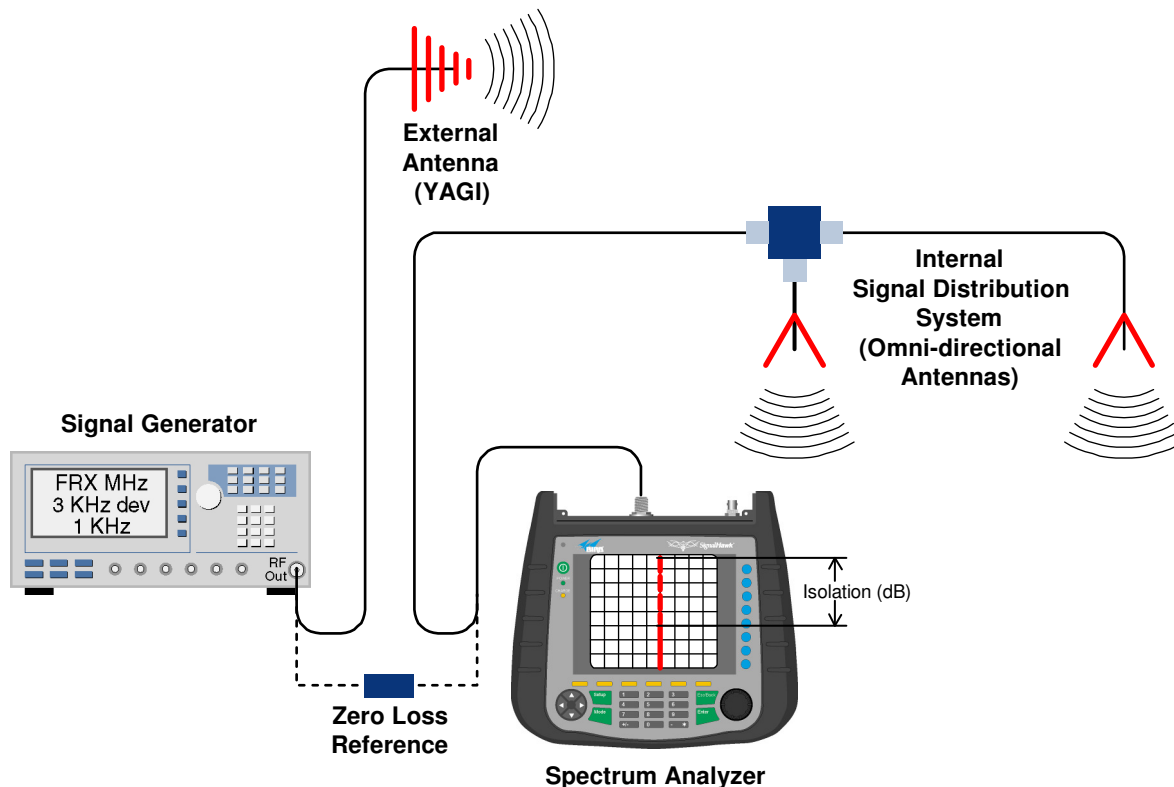

Figure 3: Typical test equipment interconnection for measuring antenna isolation.
- Figure 3:** Measuring Antenna Isolation 5
- 3) Temporarily connect the test leads of the signal generator and spectrum analyzer together using a female barrel connector, see **Figure 3**. Observe the signal on the analyzer and adjust the input attenuator of the spectrum analyzer for a signal level that just reaches the 0 dBm level at the top of the graticule.
- 4) Referring to figure 3, connect the generator test lead to one side of the antenna system and the spectrum analyzer to the other then observe the signal level. The difference between the observed level and 0 dBm is the isolation between the sections. If the signal is too weak to observe, the spectrum analyzer's bandwidth may have to be narrowed and its input attenuation reduced. The isolation value measured